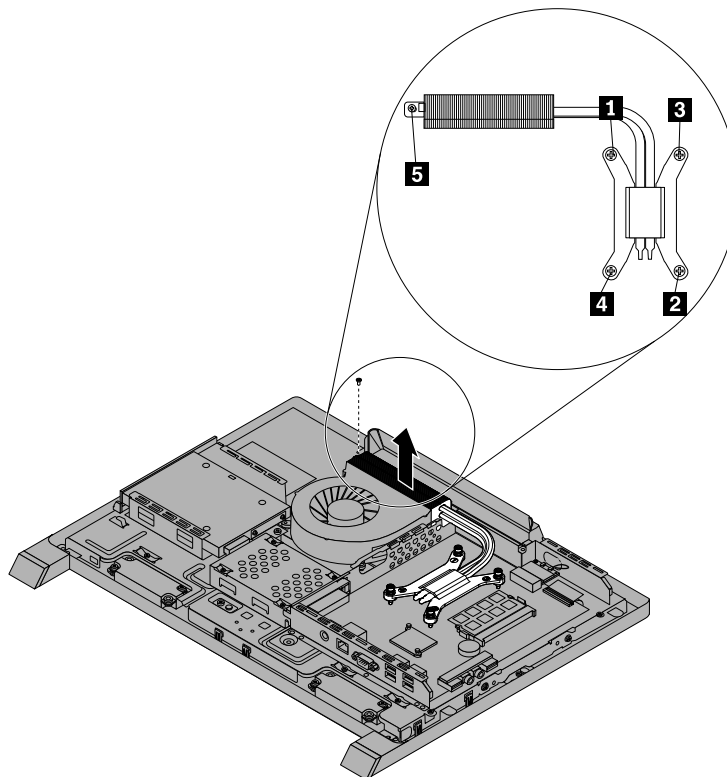

Figure 20. Loosing the screws that secure the heat sink assembly to the system board
- Follow the sequence **1**, **2**, **3**, **4** on the heat sink assembly to tighten the four screws and install the screw **5** to secure the heat sink assembly to the system board, as shown in Figure 20 “Loosing the screws that secure the heat sink assembly to the system board” on page 79.